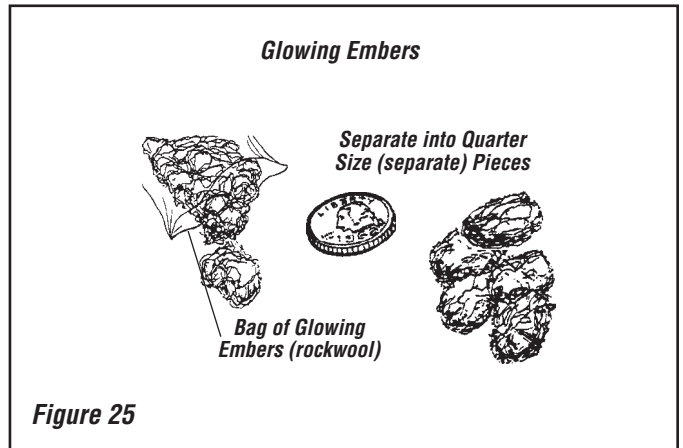

Figure 25
Step 1. Separate the Glowing Embers (Rockwool) into pieces about the size of a quarter (*see Figure 25*). Keep the pieces fluffed up, not matted.